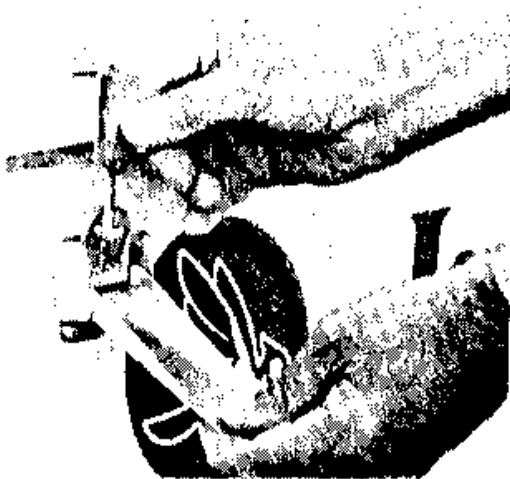

Fig. 1
1. Unlatch all four roof latches on each corner of the roof. See figure 1 in your owner manual.